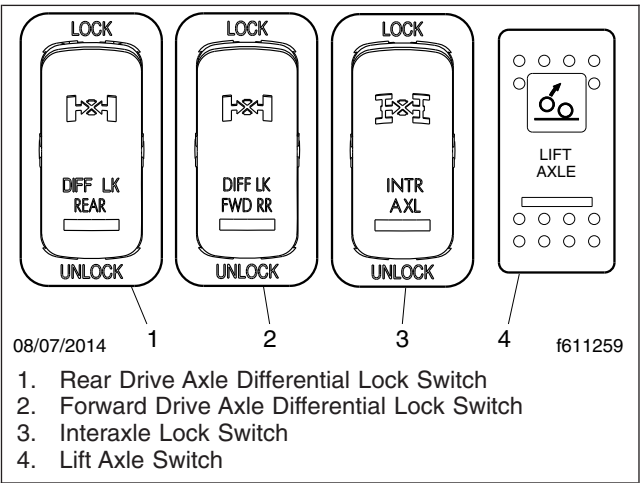

Fig. 17.1, Axle Switches
Each differential lock is controlled by a switch on the dash. See Fig. 17.1.
The interaxle lock switch (see Fig. 17.1, item 3) allows the driver to lock the drive axles together.